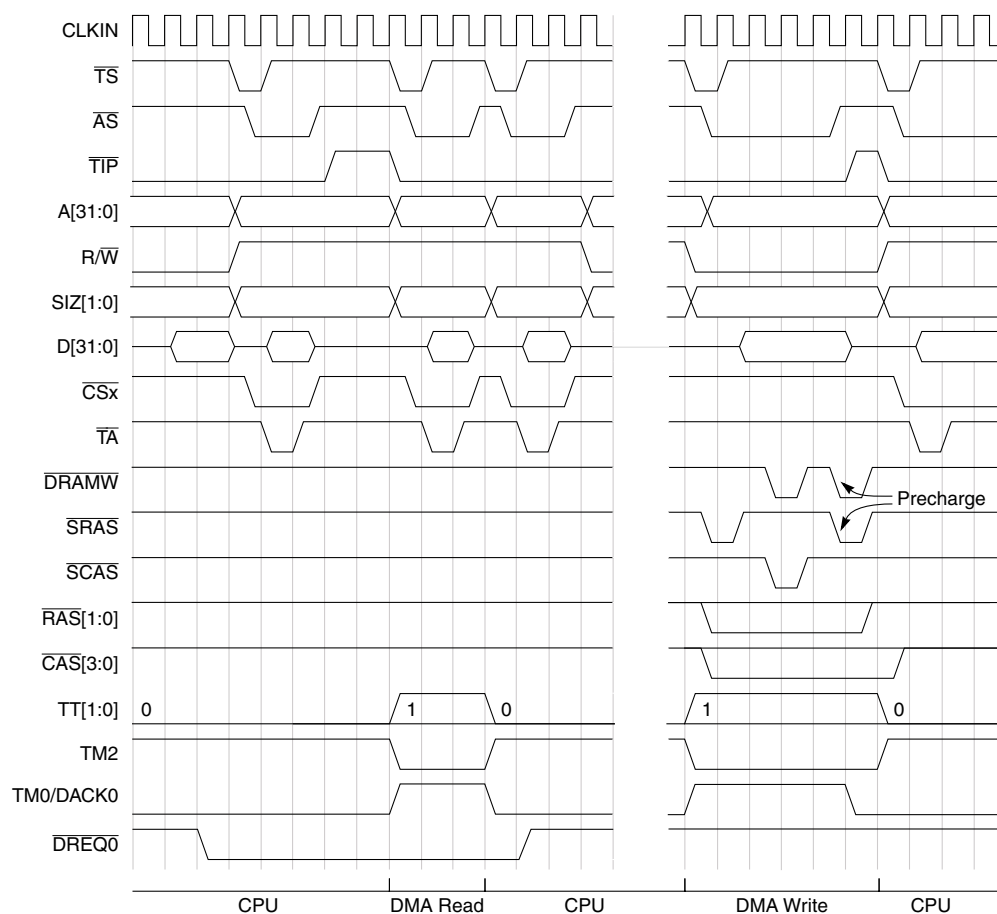

**Figure 12-12. Dual-Address, Peripheral-to-SDRAM, Lower-Priority DMA Transfer**
Figure 12-12 shows a dual-address, peripheral-to-SDRAM DMA transfer. The DMA is not parked on the bus, so the diagram shows how the CPU can generate multiple bus cycles during DMA transfers. It also shows TM0/DACK0 timing. The TT signals indicate whether the CPU (0) or DMA (1) has bus mastership. TM2 indicates dual-address mode.